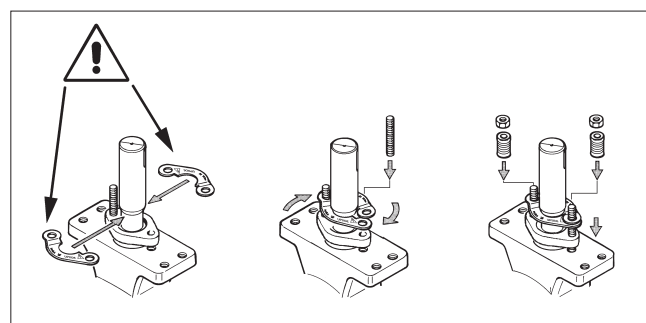

Fig. 9 Installing the retainer plates
In gland packings, tightness is ensured by the contact between the gland follower and the packing rings. See Fig. 9.
- Unfasten the nuts (25) and remove the retaining plates (42 or 30) and the gland follower (9).
- Remove the old packing rings (20).
- Clean the packing ring counterbore. Mount the new packing rings one by one using the gland follower as a tool. Mount the retaining plates with the text UPSIDE on top (see Fig. 9).